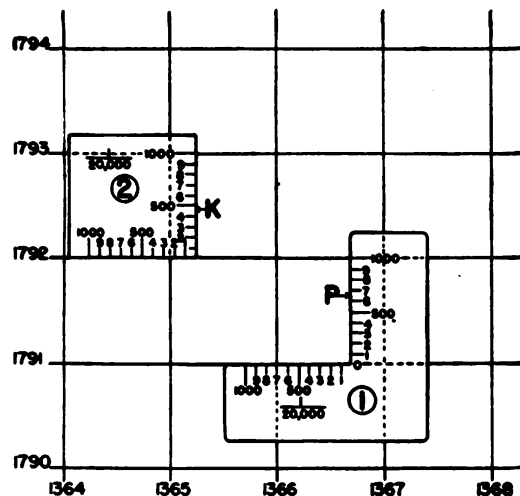

FIGURE 144.—To plot position of point with coordinate scale on terrain map (1:20,000 scale) having 1,000-yard grid. (Not reproduced to scale.)
Q. Explain in detail how to read the coordinates of any point on a gridded map. **A.** The coordinates of any square in the grid system are the *X*- and *Y*-coordinates of the lower left-hand (southwest) corner of the square. The coordinates of the lower left-hand square in figure 144 are (1,364,000–1,790,000) but are usually written (1364–1790), it being understood that each number represents thousands of
yards. These coordinates also locate to the nearest 1,000 yards any point in the lower left-hand square of figure 144. To locate a point more closely we can assume that each side of the square in question is divided into 10 equal parts, each of which represent 100 yards. Then the coordinates of the center of the lower left-hand square would be expressed as (1364.5–1790.5), which locates the center to the nearest 100 yards in each direction. The method may be further refined to read to the nearest 10 yards.
stance the point *P* of which the coordinates are given as (66.70-91.65), place the coordinate scale on the map in position 1 as shown in figure 144. The position of *P* can be marked at once with a pin or sharp pencil. It should be noted here that the first two numbers of the coordinate expression (1366.70-1791.65) have been dropped because they are common to all points in the section of map under consideration. The process of reading the coordinates of a point appearing on the map is the reverse of the method given for plotting a point on the map.